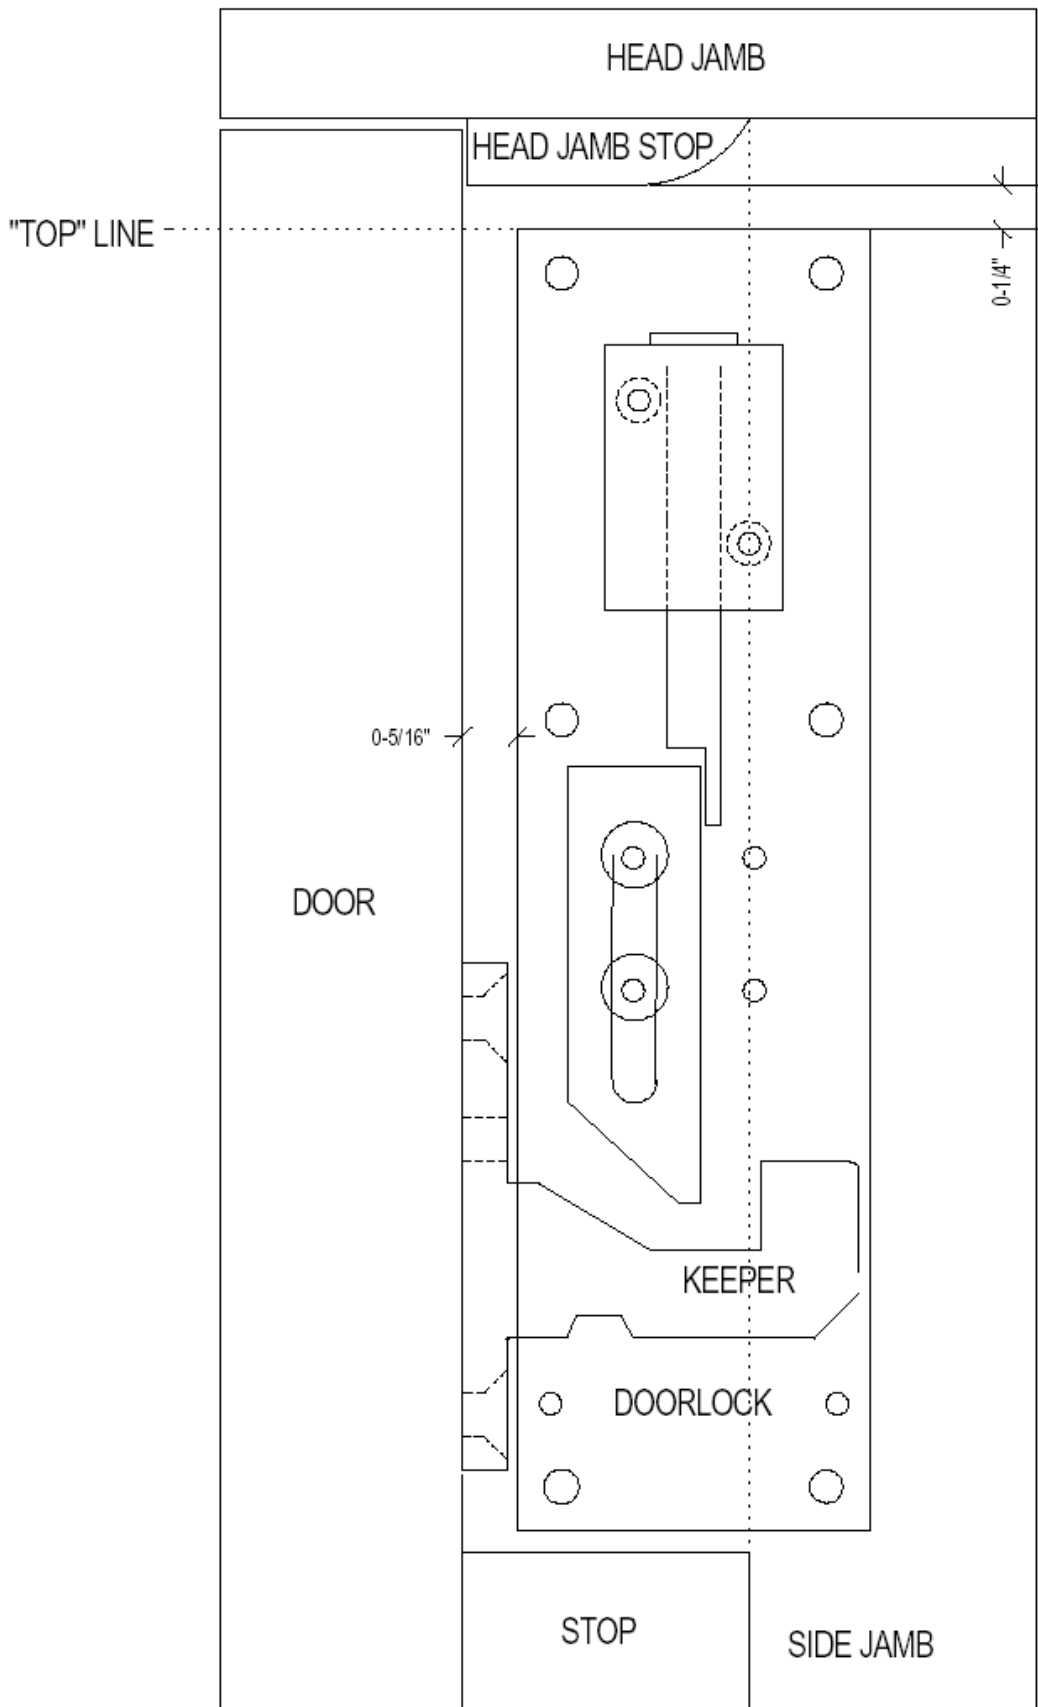

FIG 1
2. Determine where the top of the lock will be located. While the lock can be installed at any height, it is typically located near the top of the door; these directions are based on installation at the top. Allow ¼" between the door frame head jamb (or the head jamb stop if present) and the lock when installing at the top. See Fig 1 for a general side view layout.